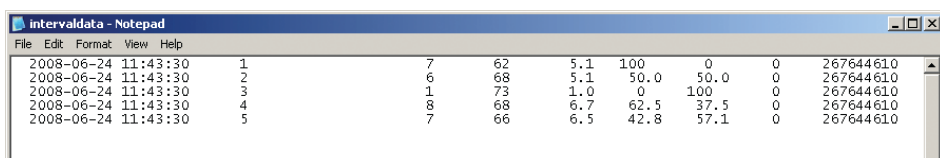

Figure 6.12 – Interval Data Log
- **View Interval Data Log** – Opens the log file in a text editor such as Notepad (see Figure 6.12). The icon shows a clock and paper.